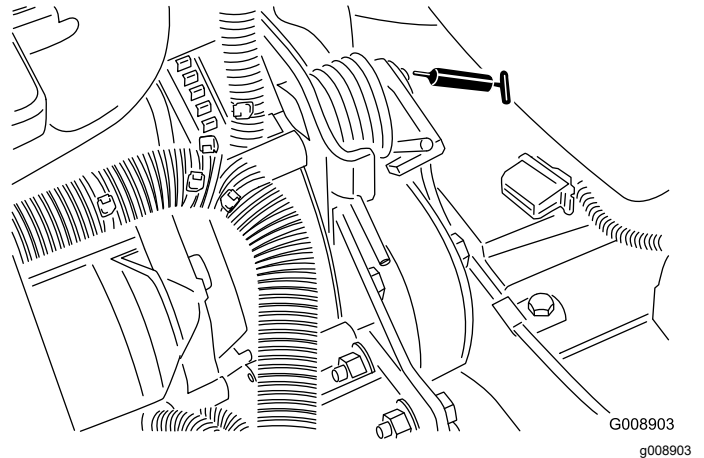

Figure 46
- Belt tension pivot (Figure 46)